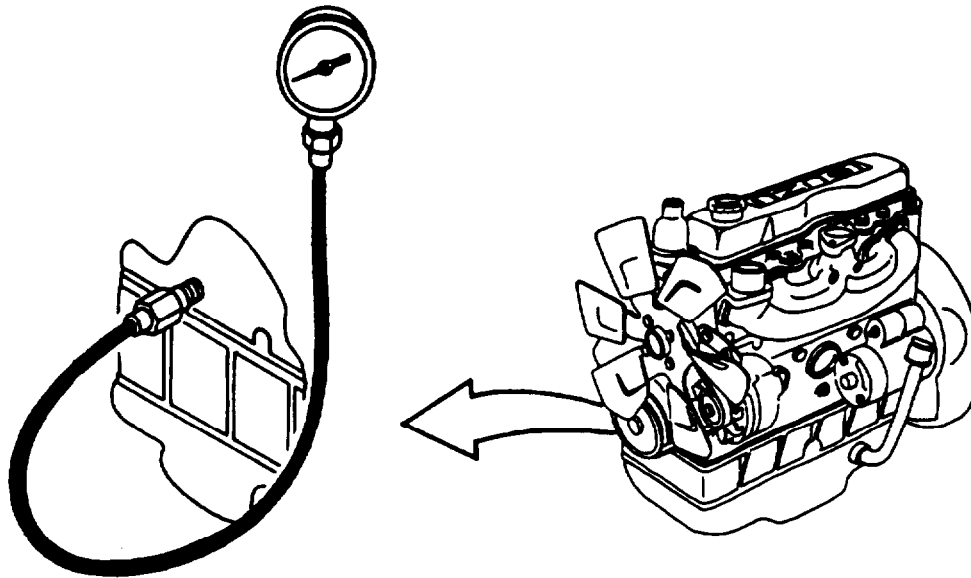

FIGURE 3-43. Oil Pressure Test Setup
- a. Attach pressure gage at pressure port shown on FIGURE 3-43.